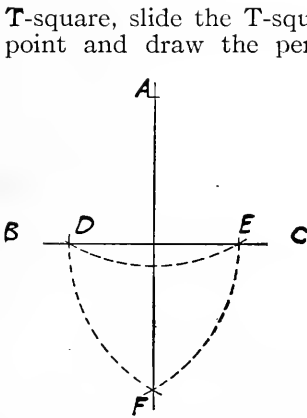

Fig. 577
4. *To draw a perpendicular to a given straight line from a point without the line* (Fig. 577).—Let A be the given point and BC the given straight line. From the point A describe an arc cutting BC at D and E. From D and E as centres and with any radius describe arcs cutting each other at F. AF will be the perpendicular required.